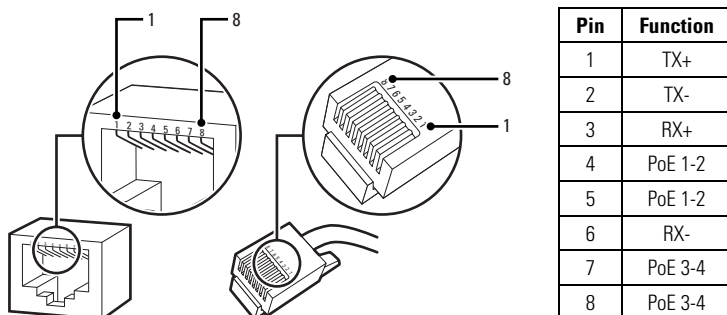

Figure 3. Pin Descriptions
- Plug the network cable into the RJ-45 connector located at the back of the camera (refer to Figure 3).